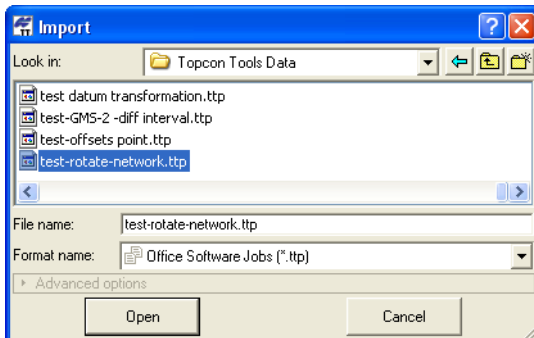

Figure 3-20. Import Topcon Tools Job
1. To import a Topcon Tools job on a computer into Topcon Tools, with a job open, either click **Job ▶ Import**, press **F3**, or click the **Import** button on the Toolbar (Figure 3-20).
4. Click **Open** to import the file (Figure 3-20).